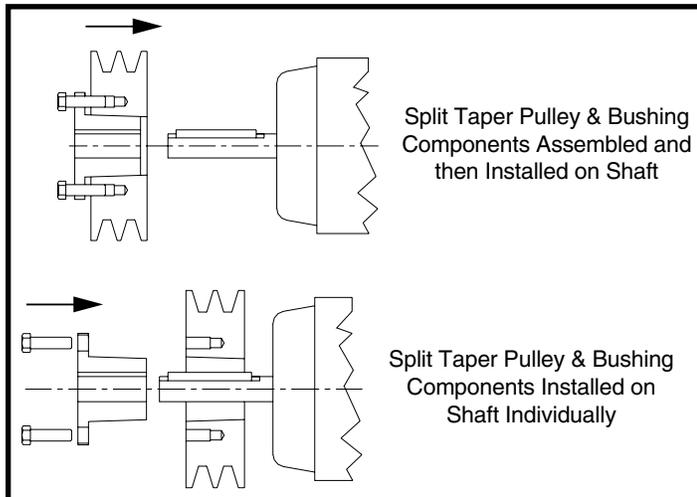

Figure 4. Split Taper Bushing & Pulley Assembly Options
- The bushing may first be loosely installed into the split taper bored pulley, and then the assembly slid onto the shaft. For heavier pulley's, it may be easier to either first slide the bushing onto the shaft and then slide the pulley onto the bushing; however, if the bushing barrel has collapsed, it must be wedged open. See Figure 4.